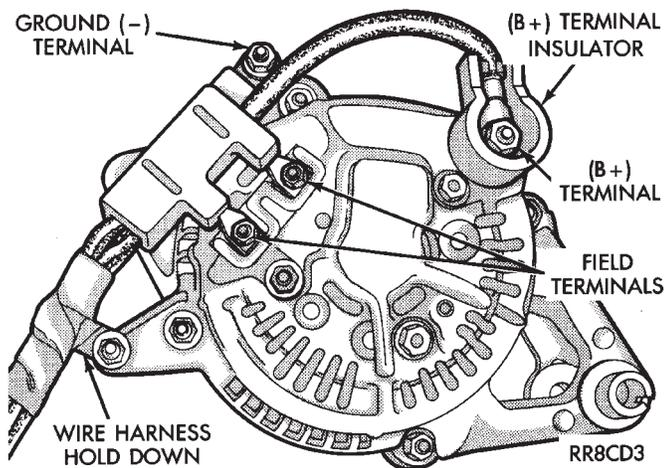

Fig. 5 Remove or Install Wire Connector Assembly—Nippondenso Alternator
- NIPPONDENSO ALTERNATOR: Remove nuts from field terminals, ground terminal, wire harness and B+ terminal (Fig. 5). B+ terminal nut must be removed last to prevent damage to terminal insulator.
- (4) Remove the alternator from the vehicle.
- (5) For installation, reverse above procedures. Torque all fasteners. Refer to the Torque Specifications chart at the rear of this group.